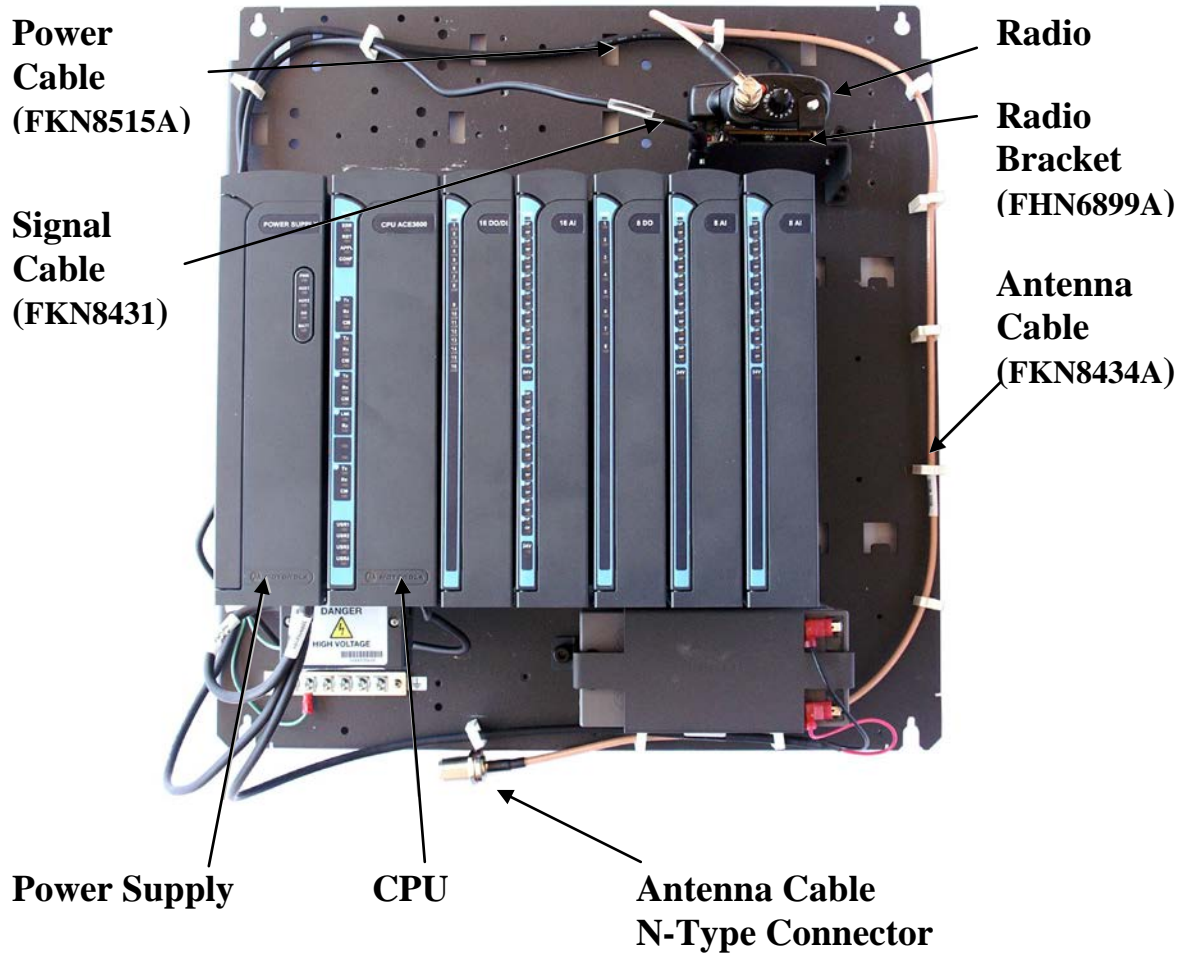

Figure 21-42 GP/HT/PRO Radio Installed on ACE3600 Chassis
8. Using the three screws on the bracket, attach the bracket with the radio to the chassis of the ACE3600. (See Figure 21-42.)
12. Use the clamps provided in the kit to route and secure the audio communication and DC power cables. (See Figure 21-42.)